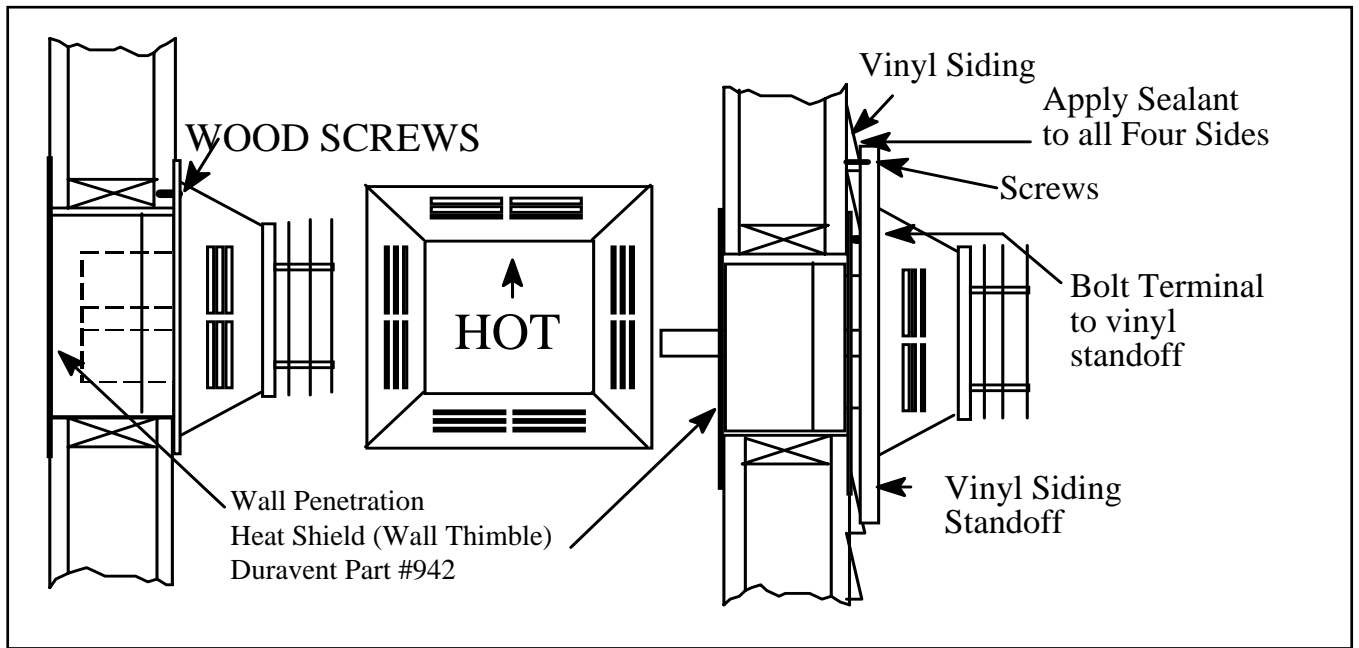

FIGURE 13: HORIZONTAL VENTING
STEP 4 Position the horizontal vent termination in the center of the 10 inch square hole. Attach the horizontal vent termination to the exterior wall with the four wood screws provided as shown in FIGURE 13. Before attaching the Vent Termination to the exterior wall, run a bead of non-hardening mastic around its outside edges. This mastic will provide a weather seal between the horizontal vent termination and the exterior wall. The arrow on the horizontal vent cap should be pointing up. Ensure that proper clearances to combustible materials are maintained in all installations.